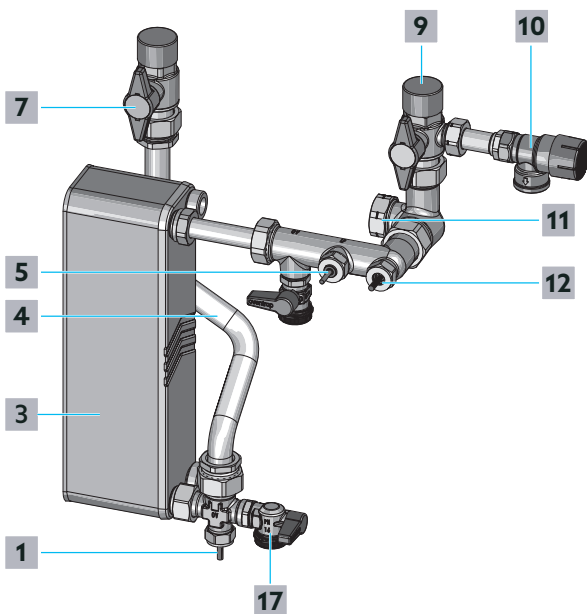

Fig. 33: Potable water circuit
- 2 Slowly close the shutoff ball valve for potable water (hot) (position **7** in Fig. 33 on page 52 and in Fig. 1 on page 11).
- 3 Slowly close the shutoff ball valve for potable water (cold) (position **9** in Fig. 33 on page 52 and in Fig. 1 on page 11).
- 4 Unscrew the cap of the lower fill and drain ball valve for potable water (hot) (position **17** in Fig. 33 on page 52 and in Fig. 1 on page 11).
- 5 Connect the drain hose for potable water to the lower fill and drain ball valve for potable water (hot) (position **17** in Fig. 33 on page 52 and in Fig. 1 on page 11).
- 6 Open the lower fill and drain ball valve for potable water (hot) (position **17** in Fig. 33 on page 52 and in Fig. 1 on page 11).
- 17** Close the lower fill and drain ball valve for potable water (hot) (position **17** in Fig. 33 on page 52 and in Fig. 1 on page 11).
- Close the lower fill and drain ball valve for potable water (hot) (position 17 in Fig. 33 on page 52 and in Fig. 1 on page 11).